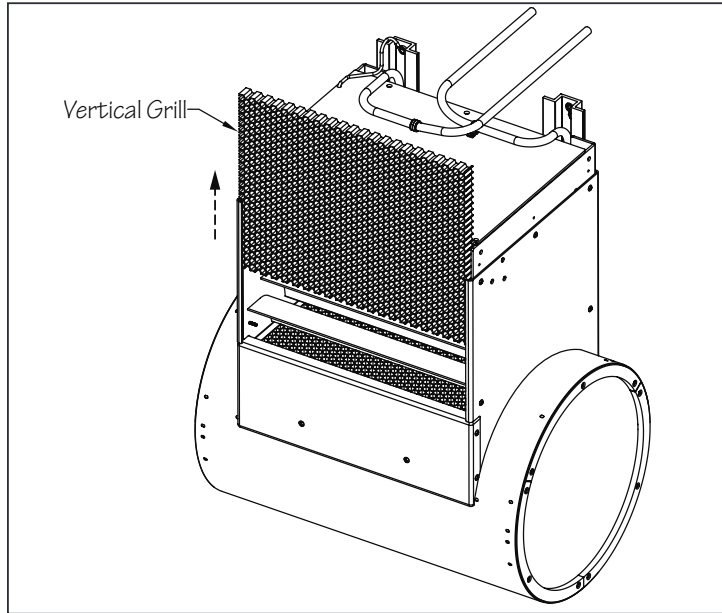

Fig. 6.1
6.2 Slide the vertical water-conditioning grill up and out of the housing assembly (Fig. 6.1).